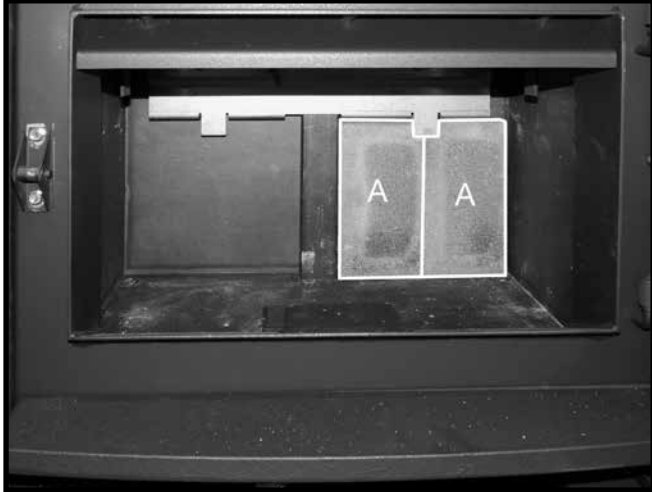
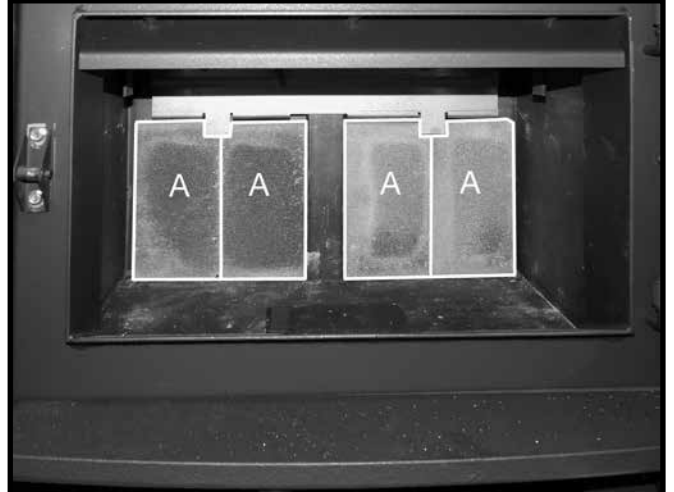

Figure 12: Installing the two rear wall firebricks.
Figure 13: Remaining rear wall firebricks in place.
2. Slide a 2nd "A" firebrick underneath the tab on the brick rail (Figure 12). Repeat steps 1 & 2 for the other side (Figure 13).